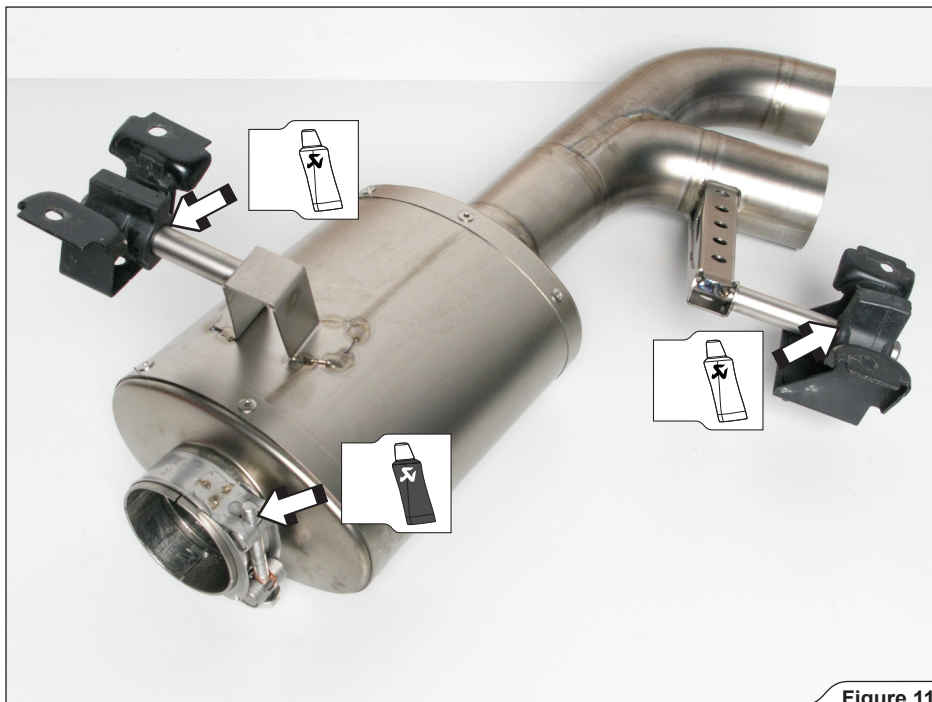

Figure 11
2. **For Slip-On and Evolution:** attach the additional metal clamps and stock rubber brackets to Akrapović mufflers and link pipe, as shown **(Figure 11, 12, 13)**.